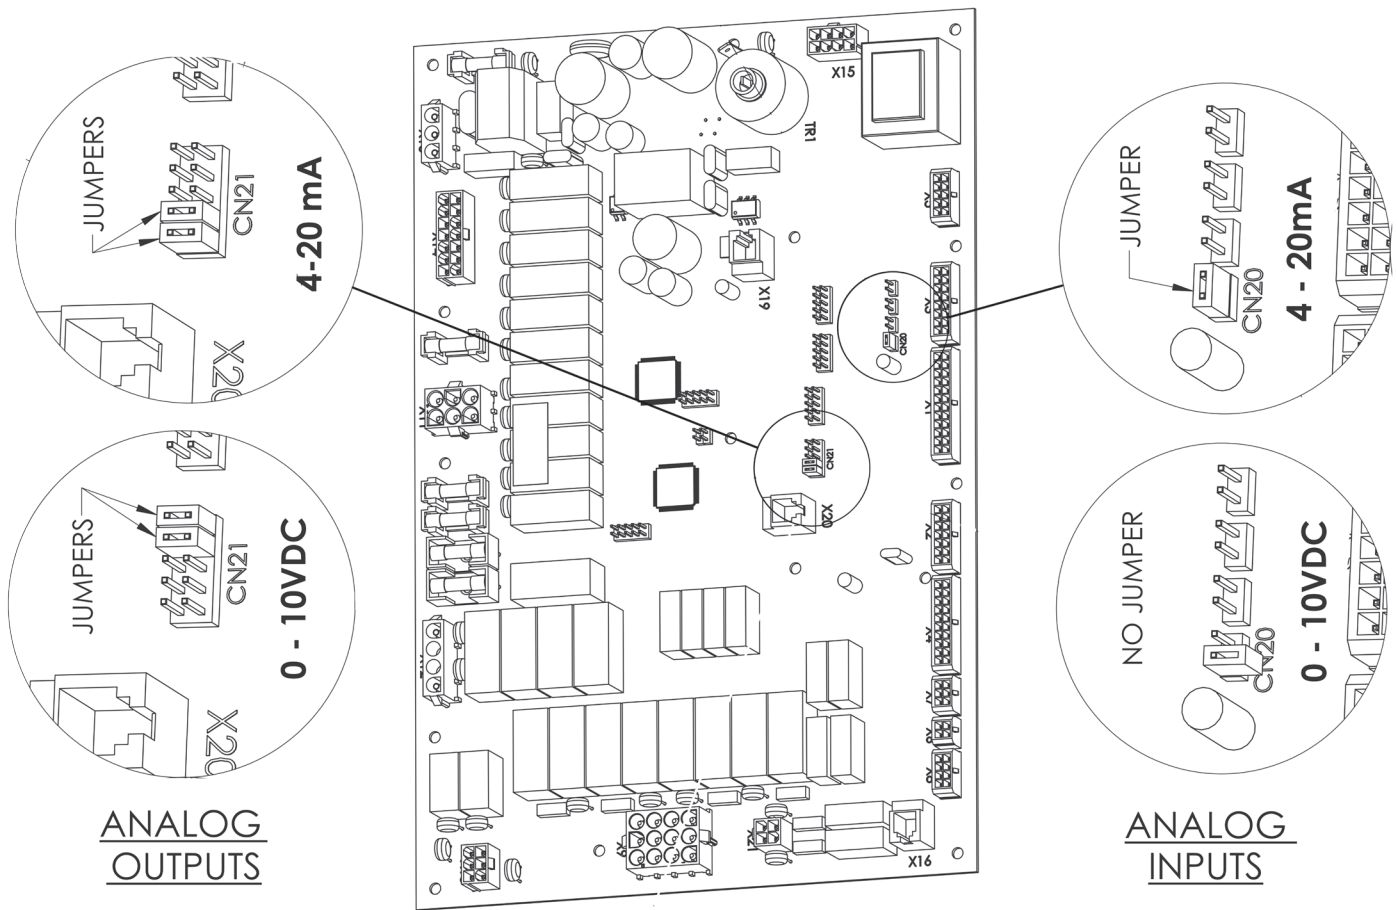

Figure 14. Jumper locations at the inputs
**BMS** – if an analog input (0-10VDC or 4-20mA) from a Building Management System is used as a remote set point or remote firing rate command, wire to terminals 47 and 48 (See Figure 13 on page 36). Polarity is shown on the terminal label. Selecting voltage or current input is accomplished through jumper placement on the control board. See Figure 14. Analog BMS functionality is configured using the touch screen.
**Pump** – when using Vari-Prime pump control, wire the pump speed wires to terminals 49 and 50. Polarity is shown on the terminal label. Selecting voltage or current output is accomplished through jumper placement on the control board. See Figure 14. Vari-Prime functionality is configured using the touch screen.